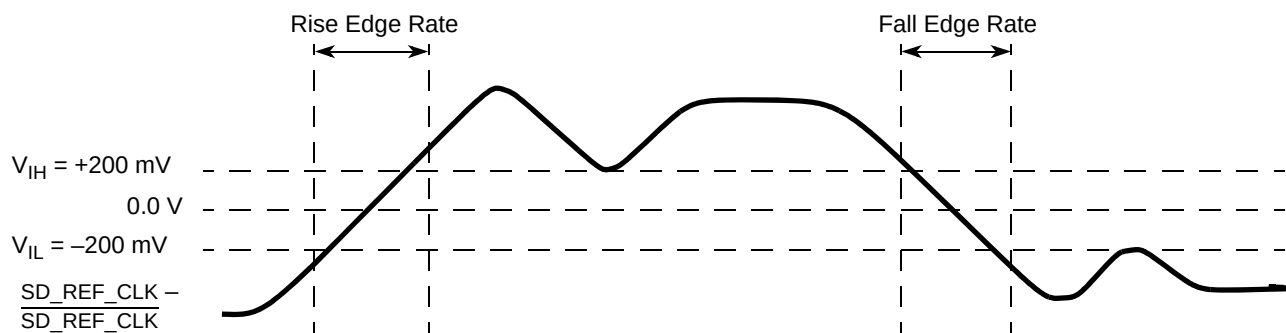

Figure 52. Differential Measurement Points for Rise and Fall Time
1. The differential waveform is constructed by subtracting the inverting signal ($\overline{\text{SDn_TX}}$, for example) from the non-inverting signal (SDn_TX , for example) within a differential pair. There is only one signal trace curve in a differential waveform. The voltage represented in the differential waveform is not referenced to ground. Refer to Figure 52 as an example for differential waveform.
- Measured from -200 mV to +200 mV on the differential waveform (derived from SDn_REF_CLK minus $\overline{\text{SDn_REF_CLK}}$). The signal must be monotonic through the measurement region for rise and fall time. The 400 mV measurement window is centered on the differential zero crossing. See Figure 52.